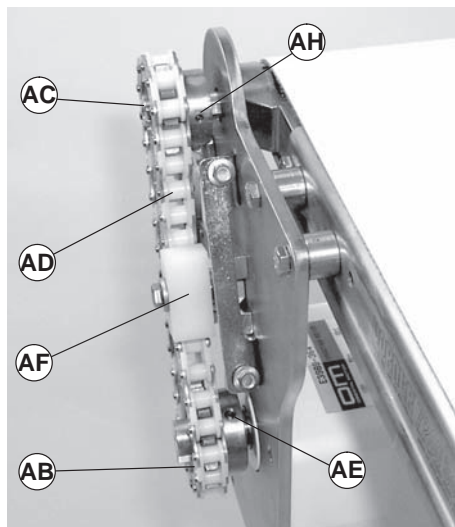

Figure 14
Make sure center of timing chain (Figure 14, item AD) aligns with center of chain tensioner (AF). If necessary, loosen two set screws (AE) to move drive sprocket (AB) in or out. Tighten set screws. Also, if necessary, loosen two set screws (AH) to move driven sprocket (AC) in or out. Tighten set screws.